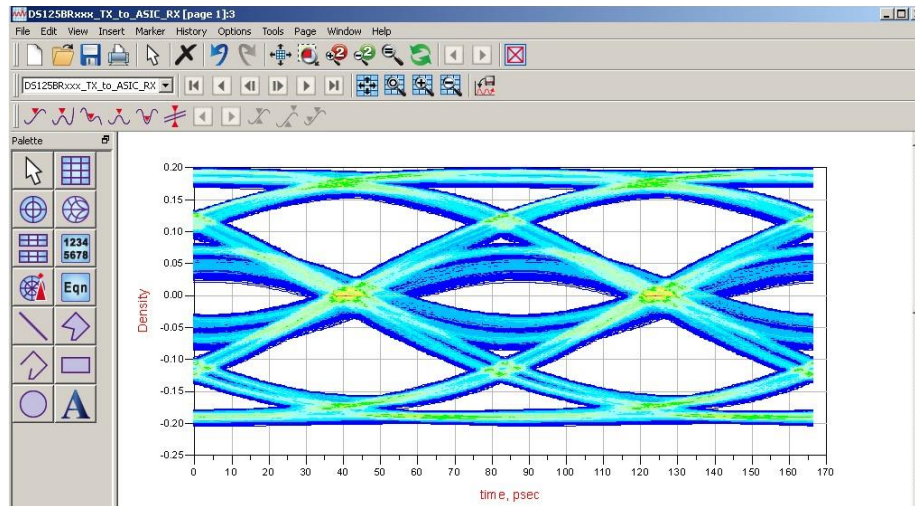

Figure 6: Example eye plot for DS125BR800 TX to ASIC RX input
12. Once the simulation completes, plot the eye (a.k.a. Density). Figure 6 shows an example eye plot at the output of the channel. The quality of the eye generated in this second simulation will be affected by: